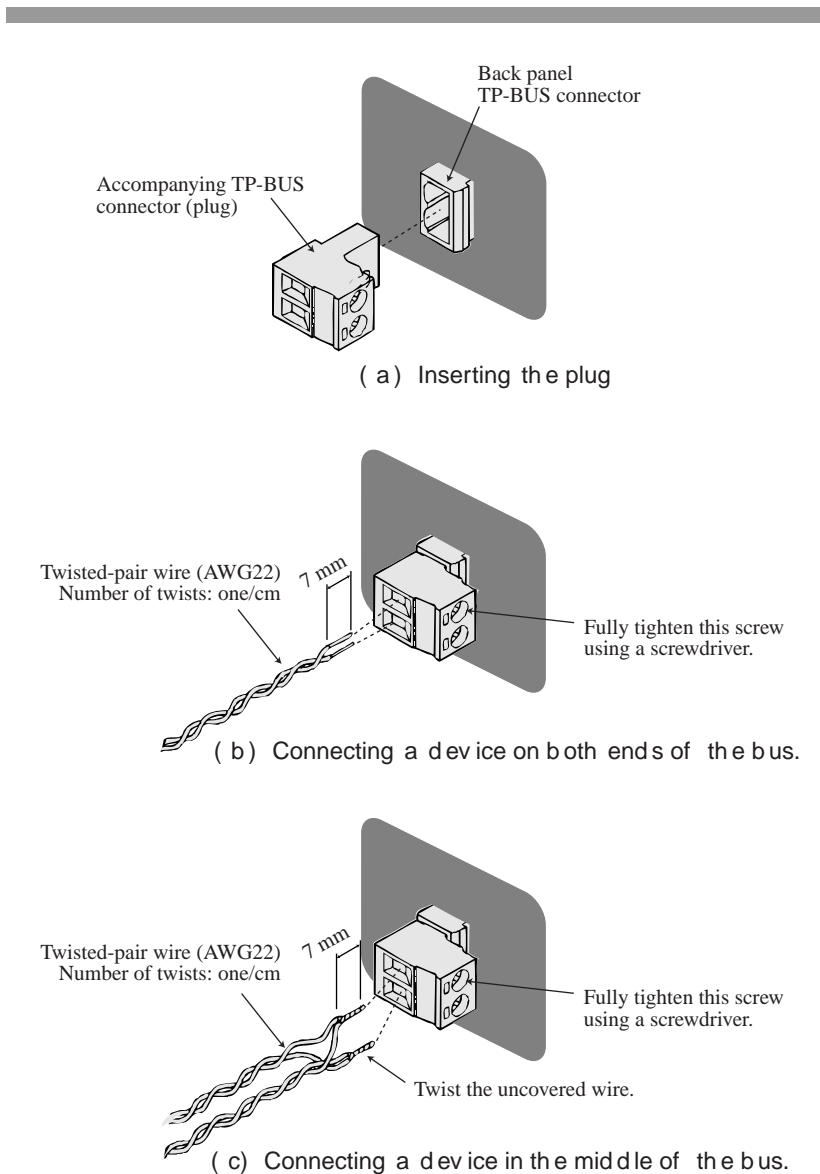

Fig. 4-14 Wiring the TP-BUS connector.
2. As shown in Fig. 4-14 (a), insert the accompanying TP-BUS connector (plug) into the TP-BUS connector on the back panel. Secure the connector to facilitate further wiring work.